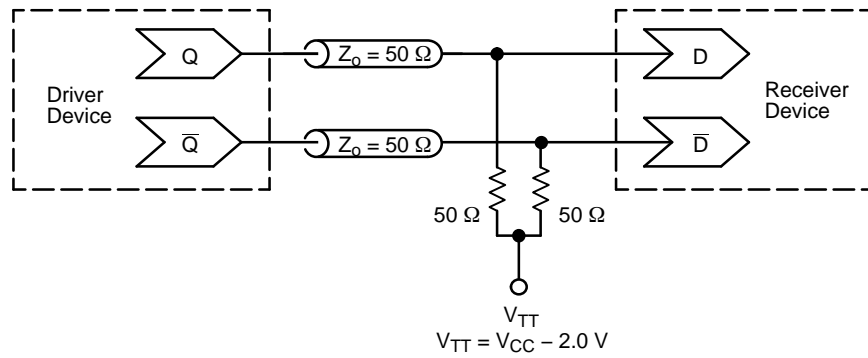
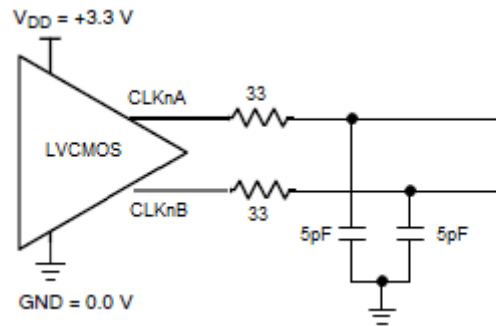

Figure 9. Typical Termination for LVPECL Output Driver and Device Evaluation
Figure 11. Typical LVCMOS Output Test Setup for Evaluation
13. Measured by using a 25 MHz crystal as clock source. All LVPECL outputs are loaded with an external $R_L = 50\ \Omega$ to $V_{DDO} - 2\text{ V}$ (Figure 9); LVC MOS outputs loaded with $R_S = 33\ \Omega$, $C_L = 5\text{ pF}$, 5" 50 Ω trace, (Figure 11).